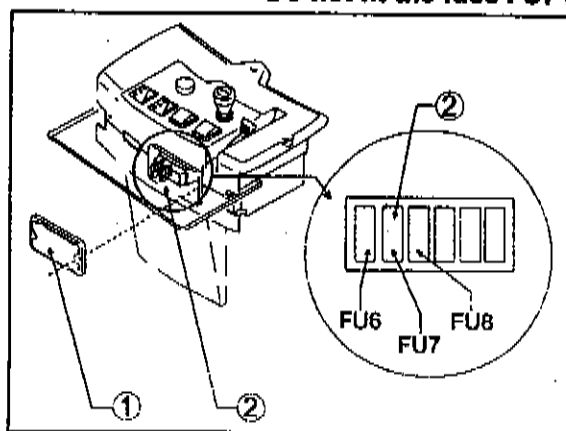

Fig. 6
When using this type of battery the fuse FU7 (fig. 6, ref. 2) inside the machine control panel must be removed using the pliers. This operation serves to inform the electronic control of the type of battery used.